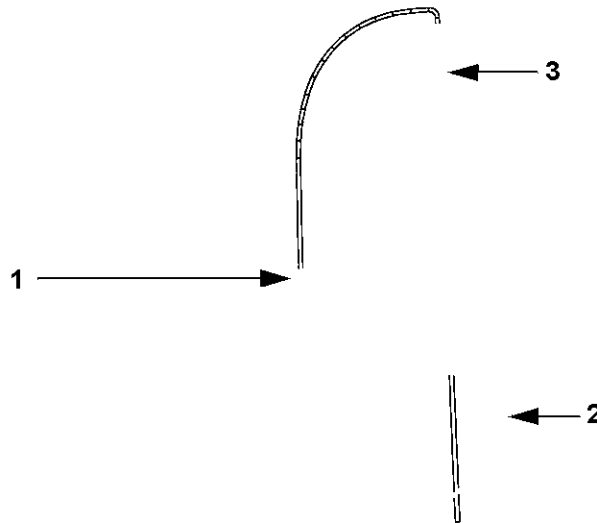

Figure 154: Diagram of the aspirating probe assembly
Do this by unscrewing the connector at position 1 in Figure 154.
8. Fully loosen the knurled nut on the front of the liquid level sensor block (item 2 in Figure 154).
(Do not pull the tubing from the top of the aspirating probe rack (item 3 in Figure 154), as this may dislodge the tubing from the tip).
5. While still holding the aspirating probe down, tighten the knurled nut at the front of the liquid level sensor block (item 2 in Figure 154) until a slight resistance is felt.
6. Connect the tube "chain" block (item 1 in Figure 154).